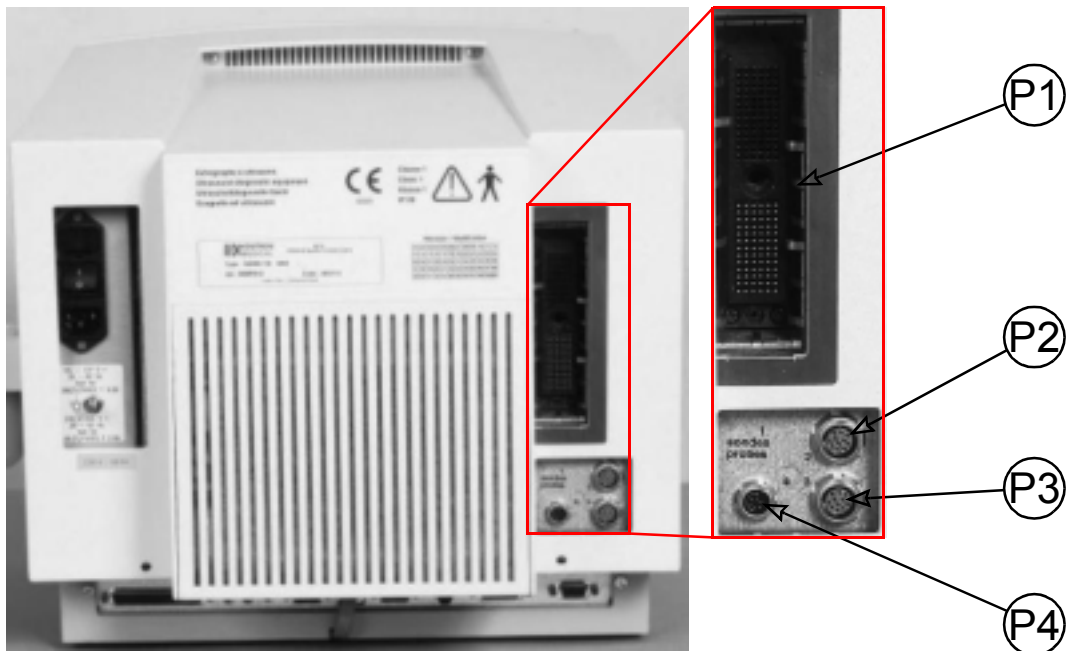

Figure 2-6: SIGMA 110 Light/Master and SIGMA 330 Master probe assignment
The "P-1" port, dedicated to Linear/Convex probes, both "P-2" and "P-3" ports to Annular Sectorial probes (AS) and the "P-4" port to Doppler pencil probes are assigned in the probe menu as shown in figure 2-6, "SIGMA 110 Light/Master and SIGMA 330 Master probe assignment", on page 2-13 and in Chapter 3.5.2.1, "Probe Main Menu, with One Linear Probe", on page 3-12.